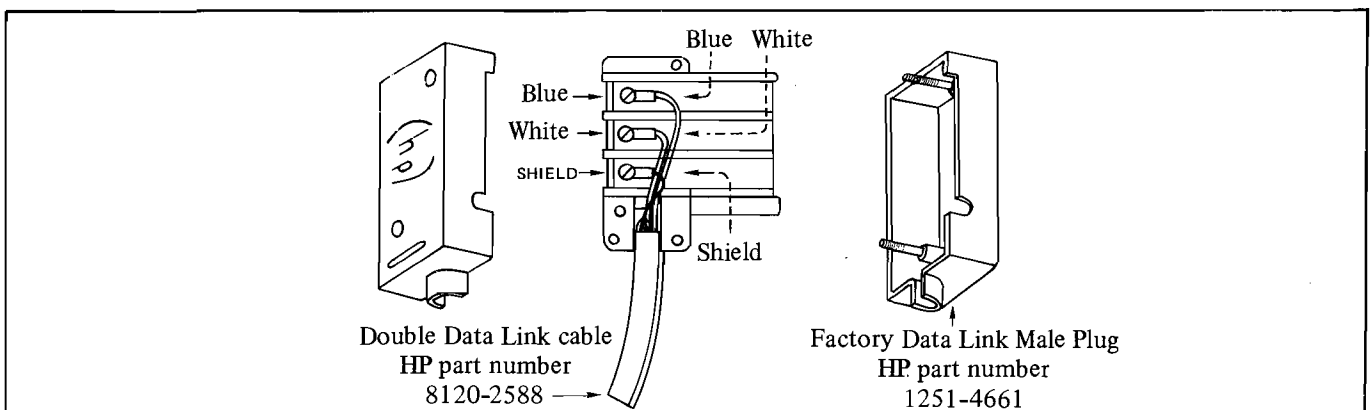

Figure 15-14 Assembling The Factory Data Link Male Plug
- 2) On the case of the Factory Data Link plug, unscrew the two screws holding the case together (see figure 15-14) and remove the case.